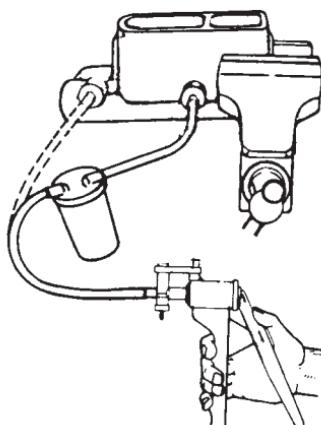

FIGURE 16: Bench Bleeding
- Remove a plug from the master cylinder and attach the proper adapter to this master cylinder outlet port. Connect the pump tube to the reservoir jar and the jar tube to the adapter (FIGURE 16).